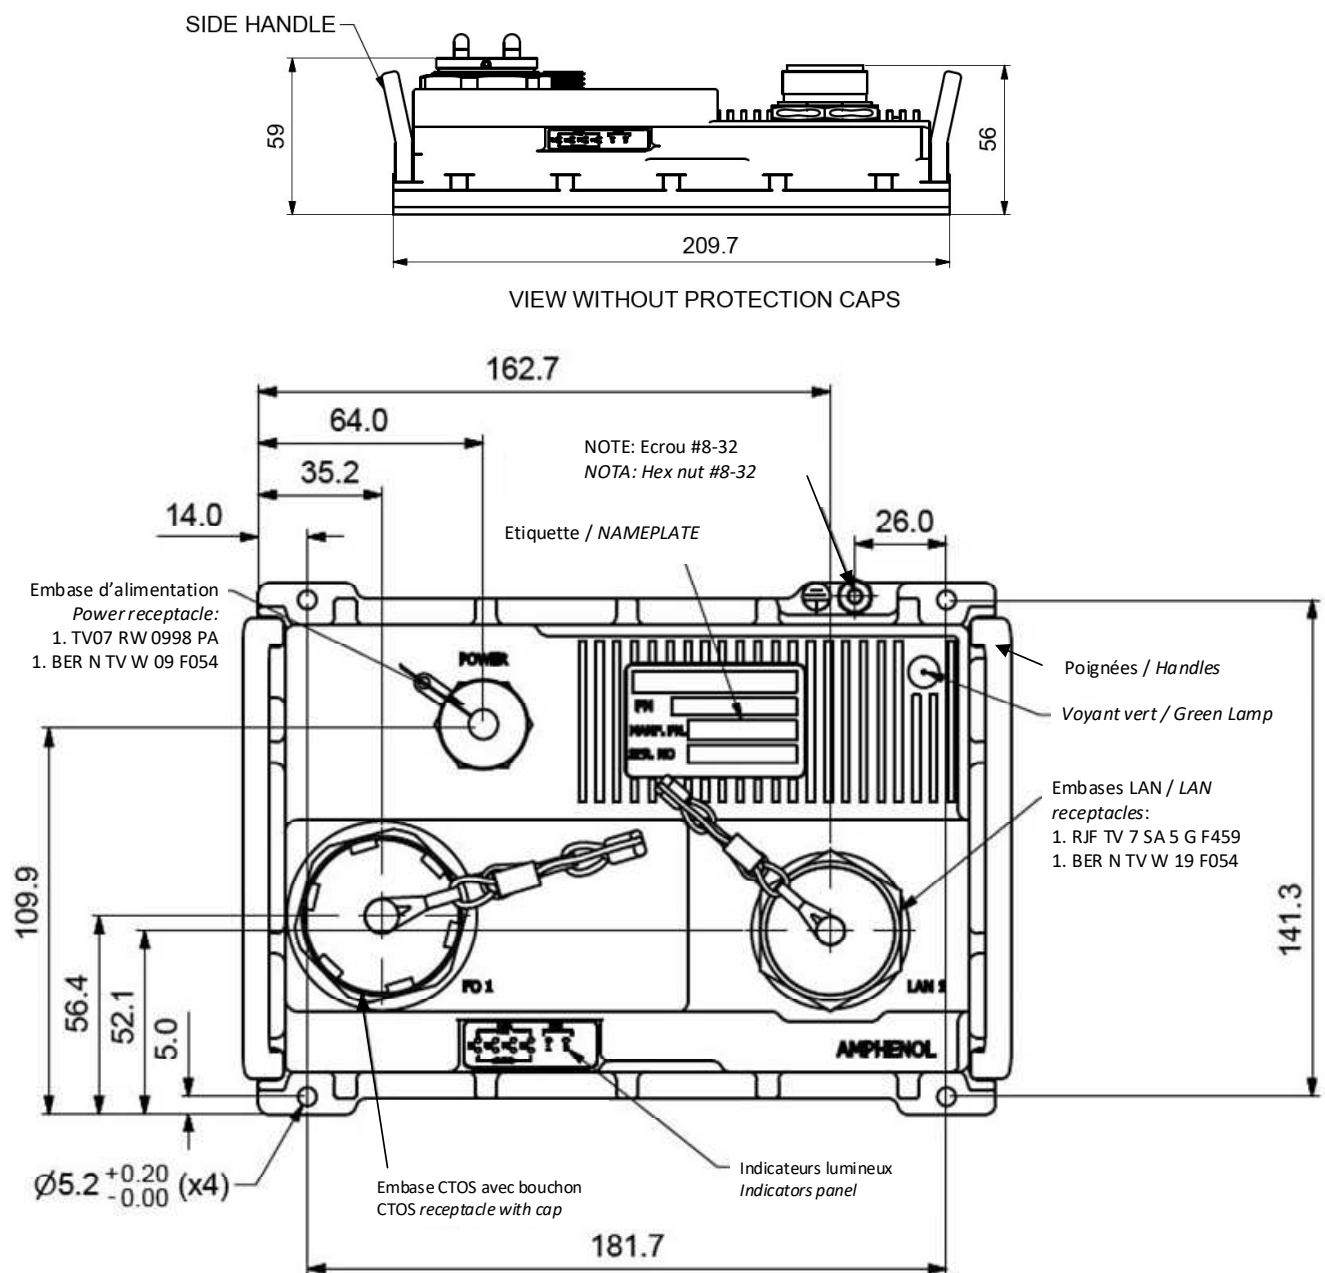

Figure 2 : RESGMC 1M 100 RJF 1CTOS OD DC Physical Dimensions
3. Fold back the braid on the outer jacket and fix it (figure 2).